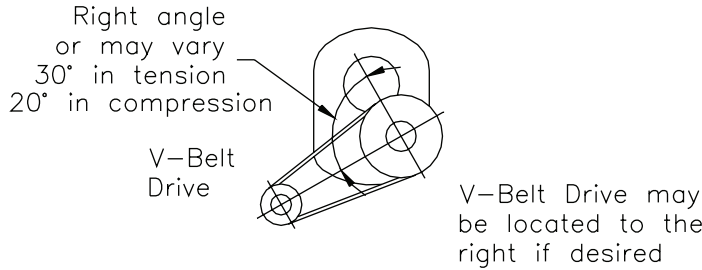

Figure 3 - Angle of V-Drive
5. If not using a Dodge Torque-Arm motor mount, install motor and V-belt drive so belt will approximately be at right angles to the centerline between driven and input shaft. (See Fig. 3) This will permit tightening the V-belt with the torque arm.